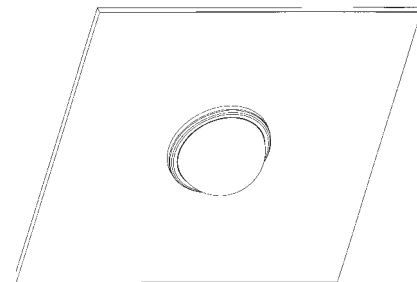

Figure 6
8. Attach the dome/trim ring by lining up the dots on the box and the trim ring. Push on one side of the trim ring near the the flat section of the box, then push on the other side of the trim ring until it snaps into place. Listen for a distinct click to ensure ring is securely in place. See **Figure 6**.